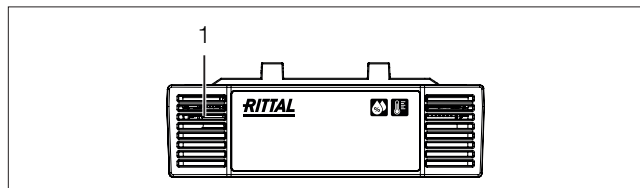
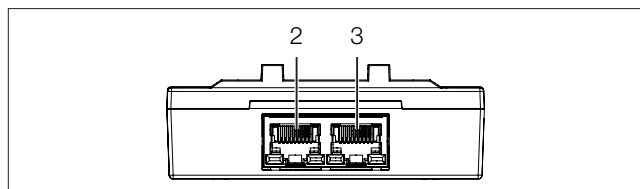

Fig. 13: Front of the temperature/humidity sensor
Fig. 14: Rear of the temperature/humidity sensor
A multi-LED for the status display is integrated into the front of the temperature/humidity sensor (fig. 13, item 1). Further LEDs are located at the rear on the CAN bus connection (fig. 14, item 2 and 3).